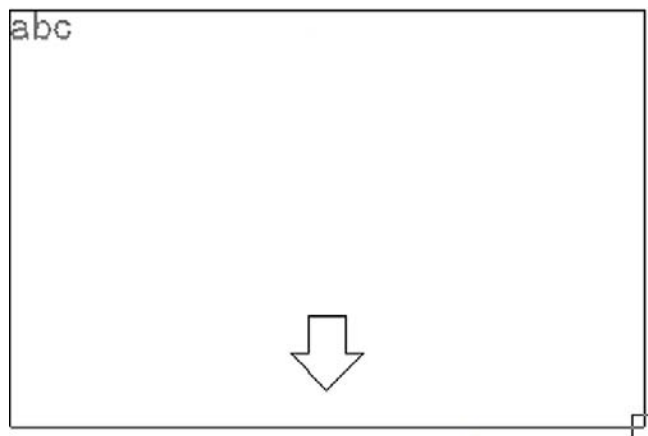

FIGURE 4.4
Step 2. Left-click anywhere on the screen, noticing the abc next to the crosshairs. A rectangle with an arrow appears, as shown in Figure 4.4. Continue to move your mouse down and across to the right, making the rectangle bigger. This is your text field; make it as large or small as you need it to be to hold all the text. As you do this,